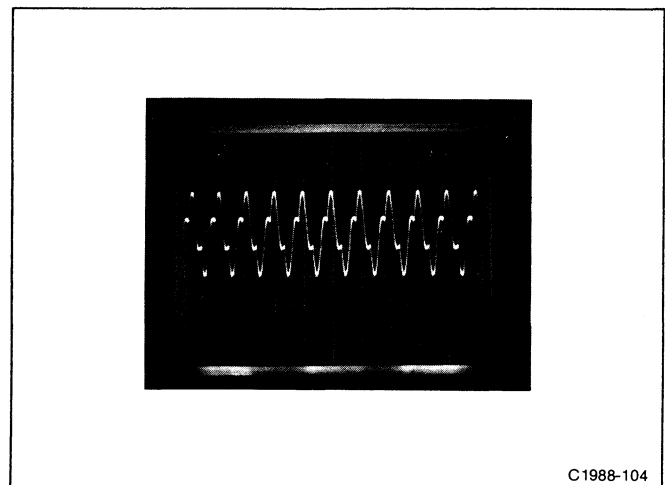

Figure 4-6. Current waveform at A23T30 for normal inverter operation at line voltage of 115 V.
5. If a burst waveform was obtained in part 4 above, check for stable inverter operation when the line input voltage is increased to about 85 volts. Figure 4-6 shows the current waveform at A23T30 for normal inverter operation at a line source of 115 volts. (NOTE: The test oscilloscope horizontal sweep rate has been changed to about 50 microseconds/division for Fig. 4-6.)